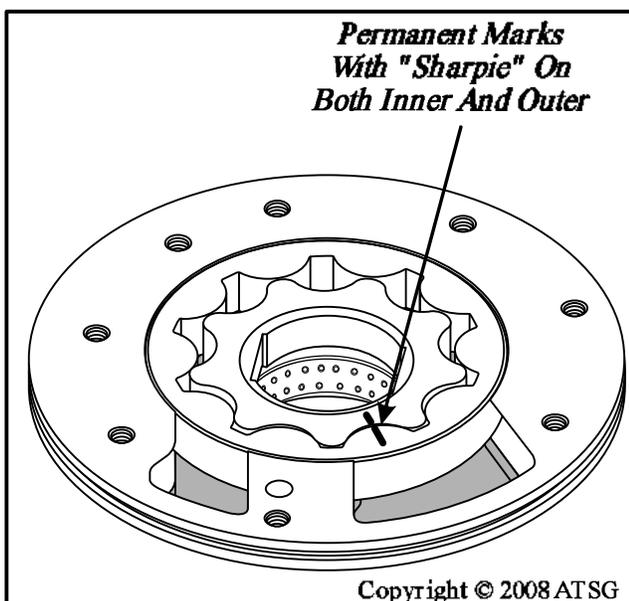

Figure 146
3. Mark the inner and outer gerotor with some type of permanent marker, like a "Sharpie", **before removal** from the pump body, as shown in Figure 146, so that they can be re-installed with the same side facing up as original.
Note: "Do Not" scratch or dent them for identification (See Figure 146).